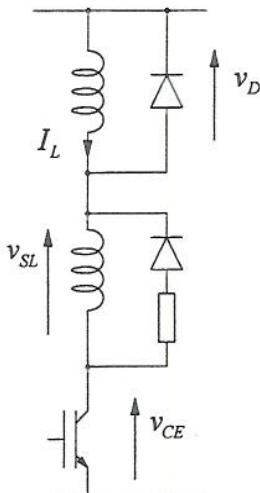

Figure Q4 – inductive load and snubber
- (a) The circuit of Figure Q4 below shows an IGBT switching an inductive load with a snubber circuit added.